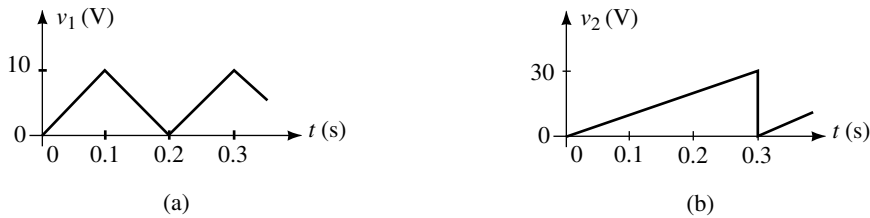

FIGURE 25-61
16. Repeat Problem 15 for the waveforms shown in Figure 25-61.